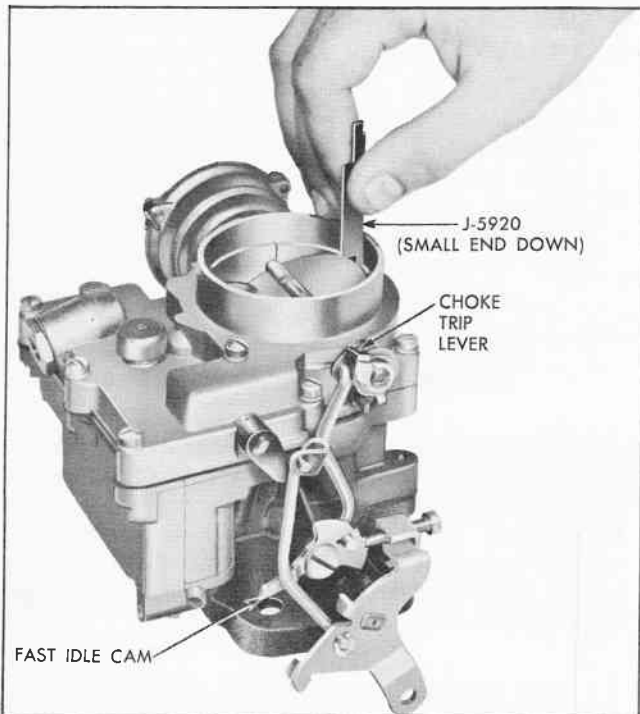

Fig. 3 Checking Fast Idle Adjustment
1. On page 6B-26, step number 1 under Fast Idle Cam Index Adjustment, use the small end of tool J-5920 as shown in Fig. 3 instead of a #55 drill.
1. Using a 1/2" open end wrench disconnect 520834 pipe assembly to 137406 connector (See Fig. 3 July 1954 "News").